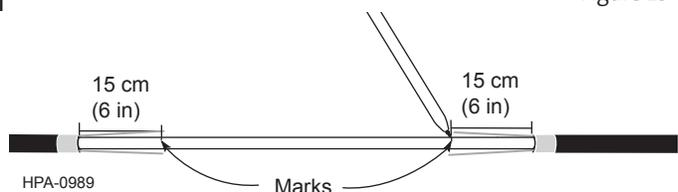

Figure 26
Step 13: Place a mark 15 cm (6 in) from the end of each side of the exposed section of central tube with a permanent marking pen (Figure 26). These mark locations will vary depending on the hardware being utilized.